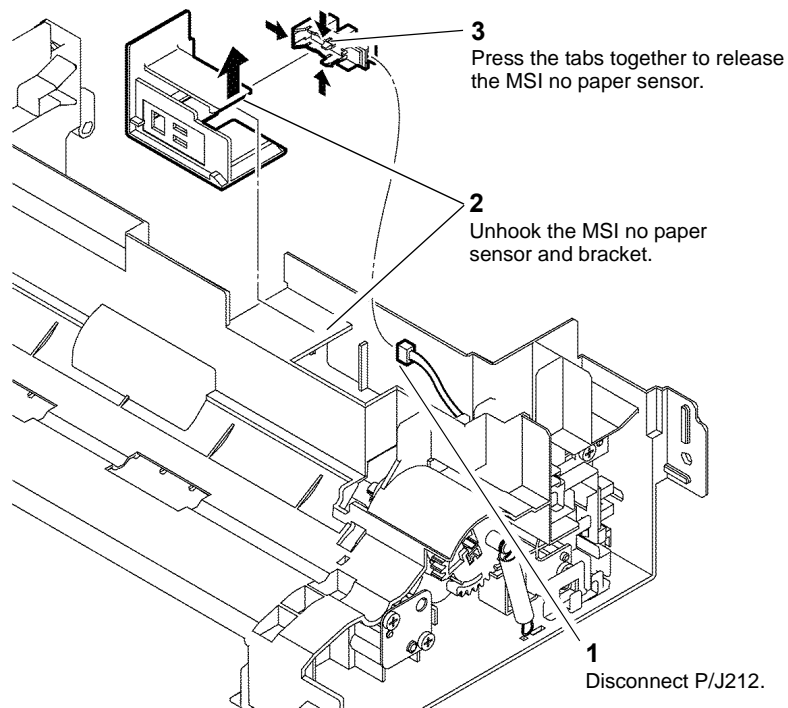

Figure 1 MSI tray no paper sensor
2. Remove the MSI no paper sensor, Figure 1.